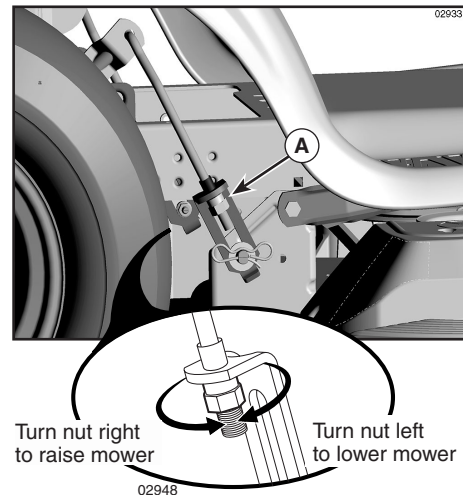

FIG. 24
**VISUAL SIDE-TO-SIDE ADJUSTMENT** (See Fig. 24)
- With a 3/4" or adjustable wrench, turn lift link adjustment nut (A) to the left to lower the mower, or, to the right to raise the mower.